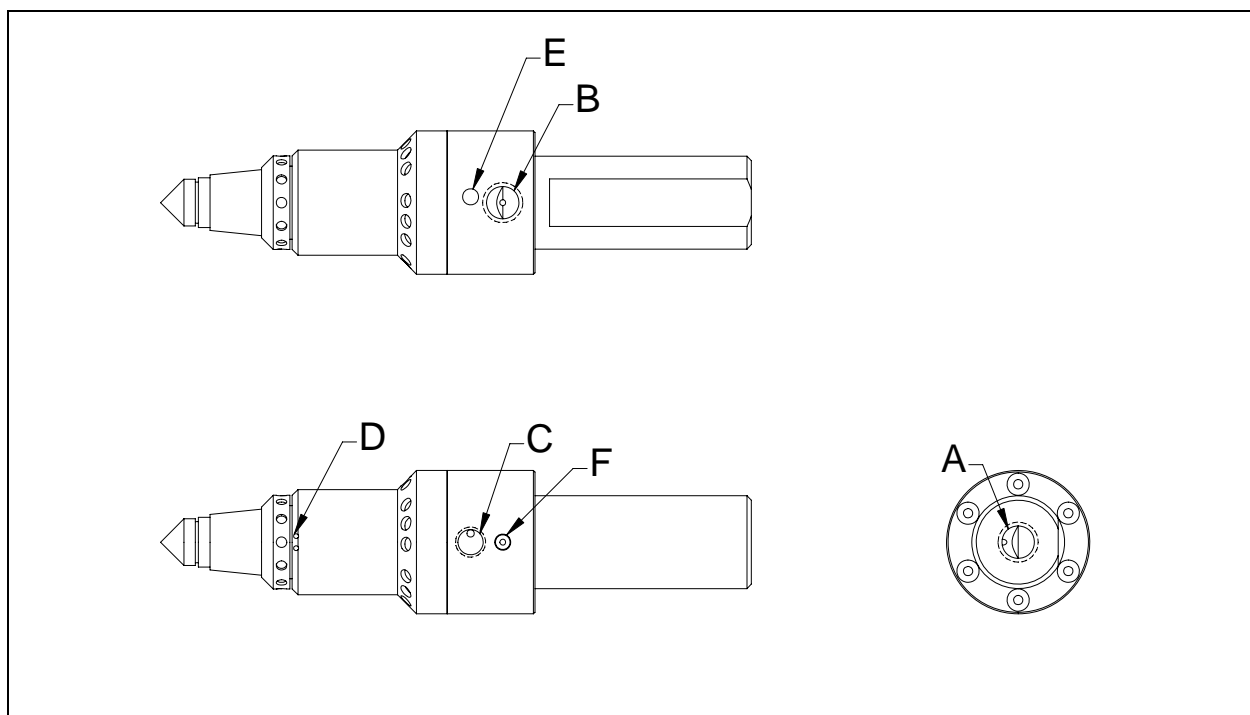

Figure 4.5— Axially-Compliant CNC Deburring Tool Pneumatic Ports
6.3 Pneumatic Connections—Alternate (See Figure 4.5)
7.1 Adjusting the Drive Pressure (See Figure 4.5)
7.2 Adjusting the Axial Force (See Figure 4.5)